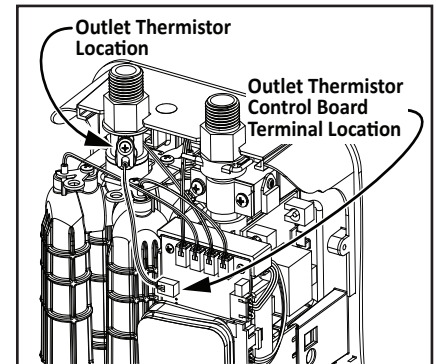

Figure 22 - Chamber thermistor location.
- 3** With the front cover removed, take a moment to note how the outlet thermistor is installed and which control board terminal the wire harness is plugged into. See Figure 22.
Plug the outlet thermistor's wire connector into the control board. See Figures 22 and 23, page 20.